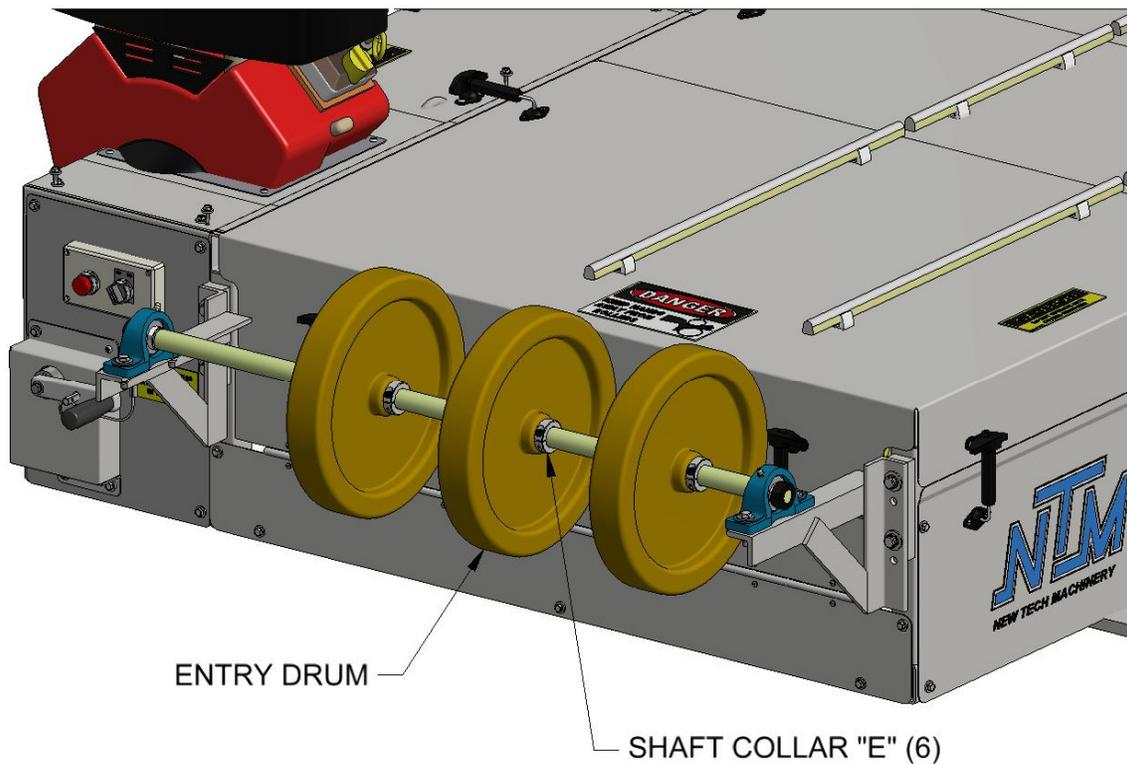

Figure 45: Entry Drum
1. Using a 3/16" Allen wrench, loosen the Shaft Collars "E", on either side of the drum. (Figure 45)